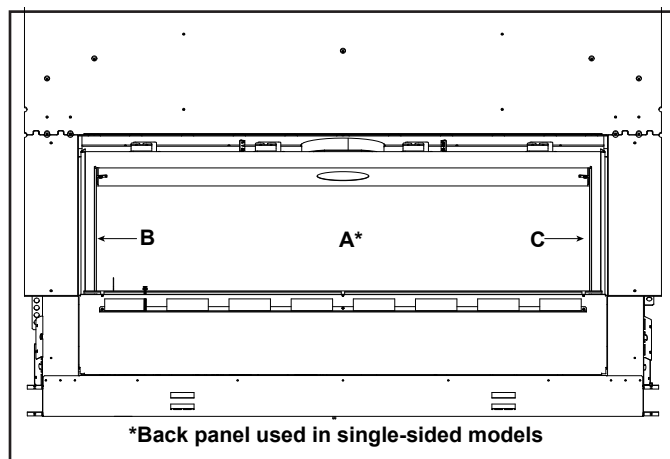

Figure 1 Placement of Glass Panels
1. Set back glass panel, labeled A in Figure 1, into firebox with the smooth side of the glass facing outward. Insert retaining bracket through the slot in the inner firebox heat shield. Line up the existing hole in the heat shield with the hole closest to the bend in the bracket and secure in place with a screw. See Figure 2 and Figure 3.
4. Install the left side panel, labelled “B” in Figure 1, by sliding it into place from the front. While installing, press the panel firmly against the firebox side.
1. Set left side glass panel, labeled B in Figure 1, into firebox with the smooth side facing outward.